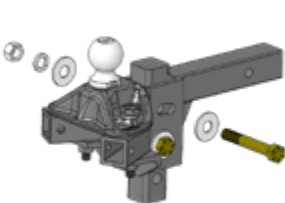

Figure 4
4. Use the 3/4" bolts, flat washers, lock washers and nuts to secure the head to the shank at the correct height. Hand tighten the nuts. (Figure 4)